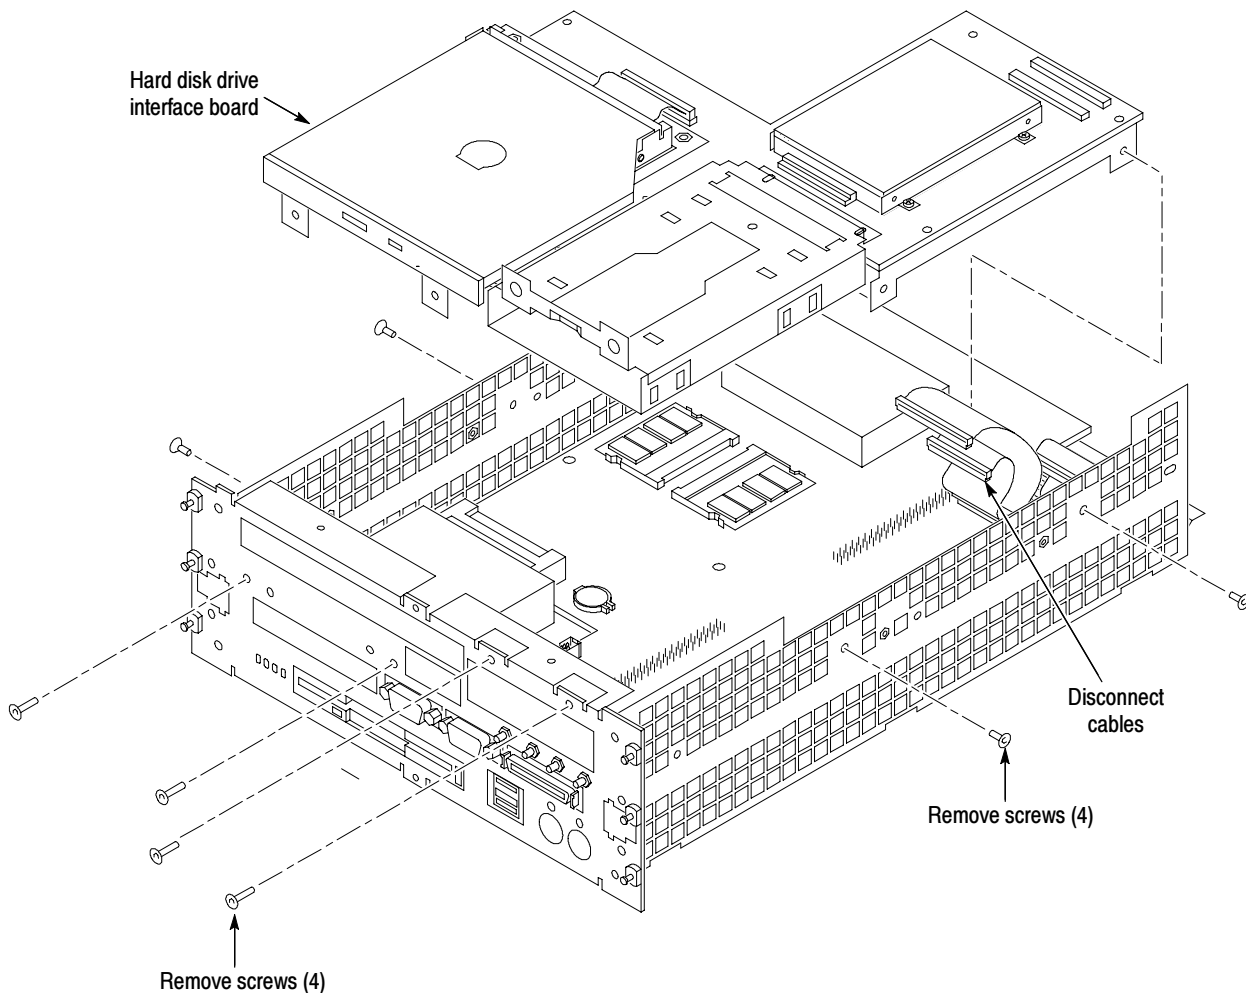

Figure 7: Removing the hard disk drive interface board from the chassis
1. Refer to Figure 7 and remove the four T-10 screws from the front of the controller.
2. Remove the four flat-head T-10 screws on the chassis that hold the hard drive interface board in place. See Figure 7.
2. Install the four flat-head T-10 screws on the top and bottom of the chassis; tighten the screws to 4 in-lbs (refer to Figure 7 on page 15 as necessary).